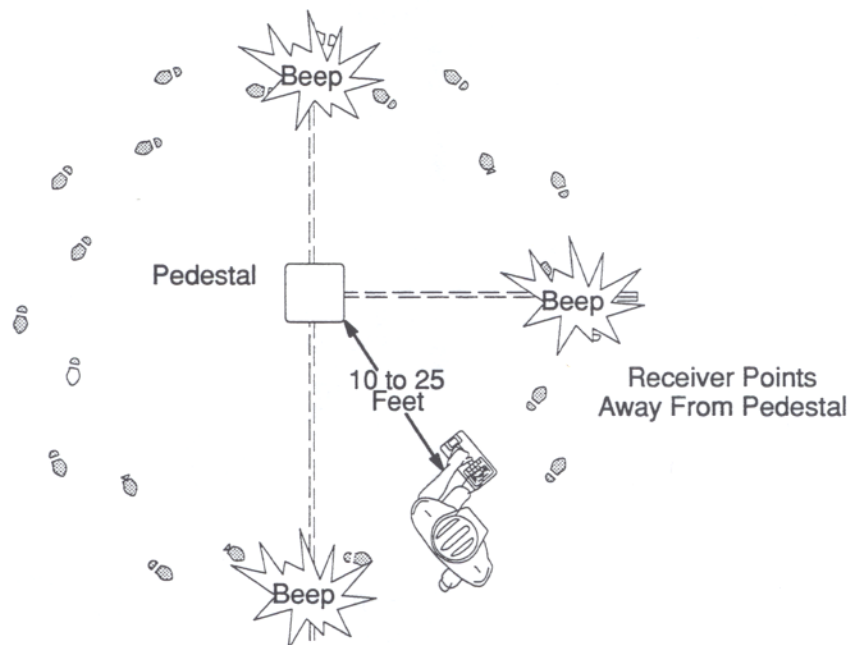

Fig. 4-5 Locating Cables from Pedestals
- b. Check that the Receiver is in the  (peak) mode and walk 10 to 25 feet away from the pedestal. Hold the Receiver so that the display end of the handle points directly AWAY from the pedestal. Start walking in a circle around the pedestal with the Receiver always pointing outward. Refer to Fig. 4-5.